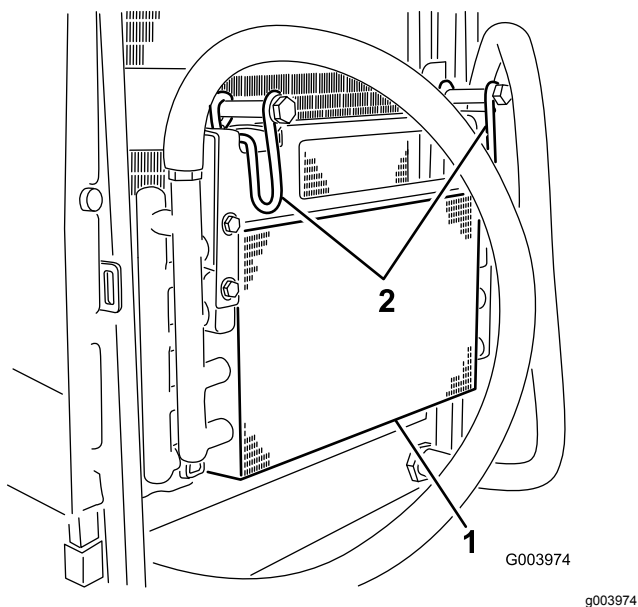

Figure 80
5. Pivot the latches inward to release the oil cooler (Figure 80).